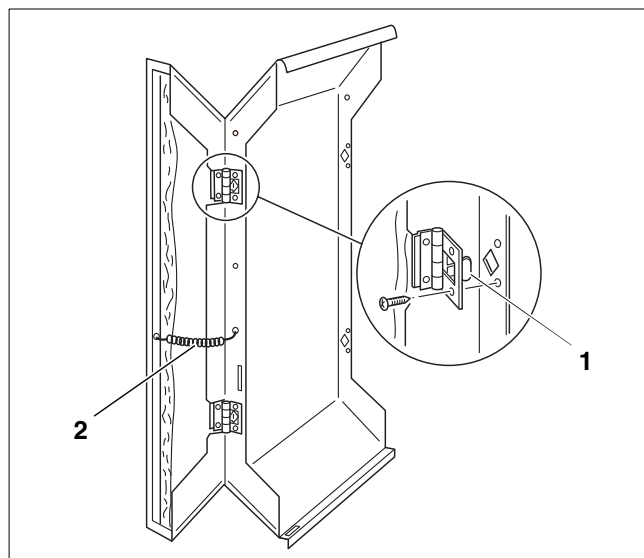

Fig. 48 Assembly – Fitting opening side panels
- Insert the hooks on the hinges of the opening side panels (Fig. 48, **ref. 1**) into the cut-outs in the front side panel and screw the hinges to the panel with self-tapping screws.
- Hook the traction spring (Fig. 48, **ref. 2**) to the side panel and opening side panel.